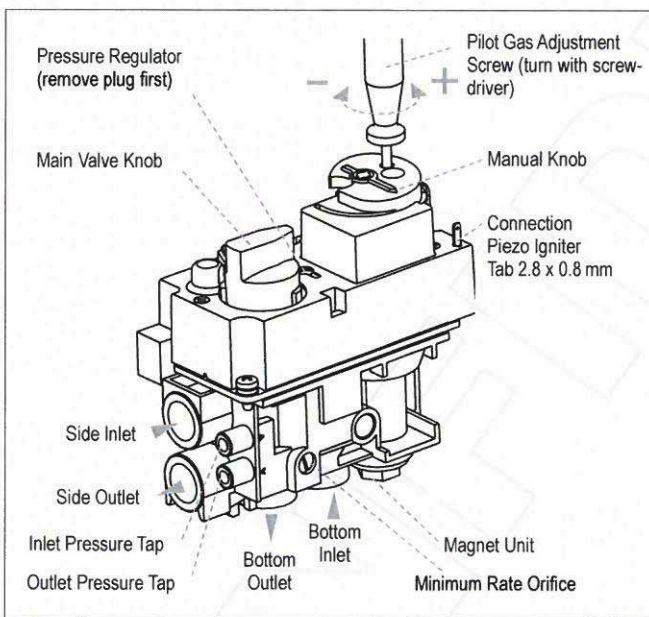

Figure 21: GV60, Connections and Adjustment Options
Knob function as follows (see figure 21):
1. The adjustment screw can be reached through a hole in the **MANUAL** knob (see figure 21).
- Pressure regulator or throttle are located under the cover and can be reached by removing the plug (see figures 21 and 23).